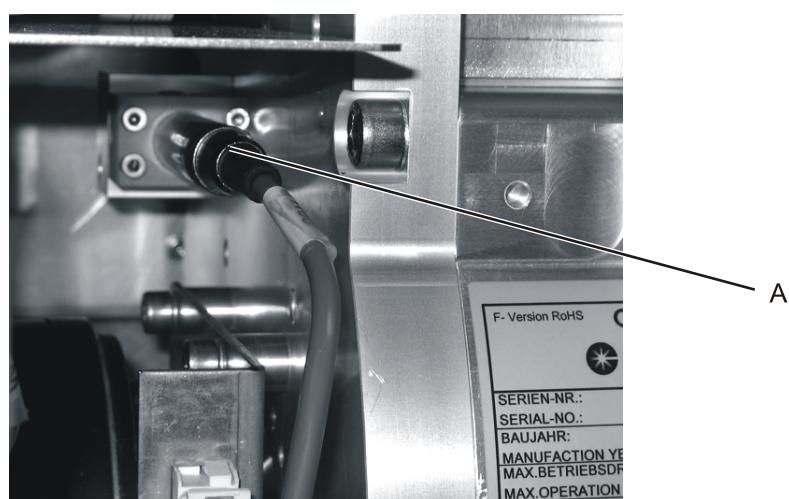

Figure 38: Disconnecting the pressure sensor signal line
16. Disconnect the pressure sensor signal line (see Figure 38, A).